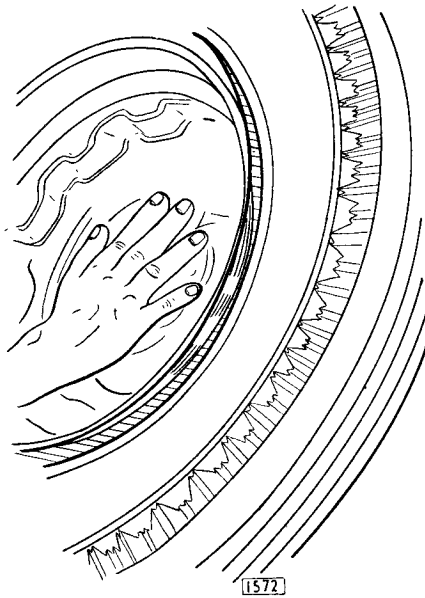

Fig. 23. Seating the reverse bead.
4. Reverse assembly, taking care not to dislodge first bead, and lean at a greater angle. (Fig. 23.)
5. With valve core removed attach air line. Whilst inflating, press gently against wheel centre to seal second bead. (Fig. 23.) Alternating hand pressure rather than continuous pressure may be found helpful. Continue to inflate until beads obtain a hold on the rim seats.